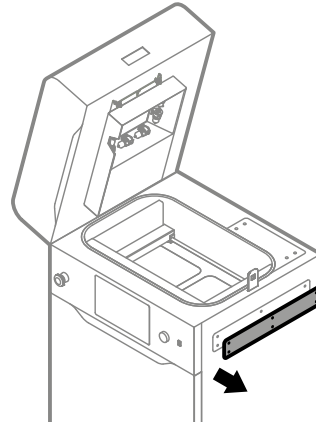

Fig. 12.70 Remove the access panel.
7. Remove the access panel on the right side of the printer (fig. 12.70).